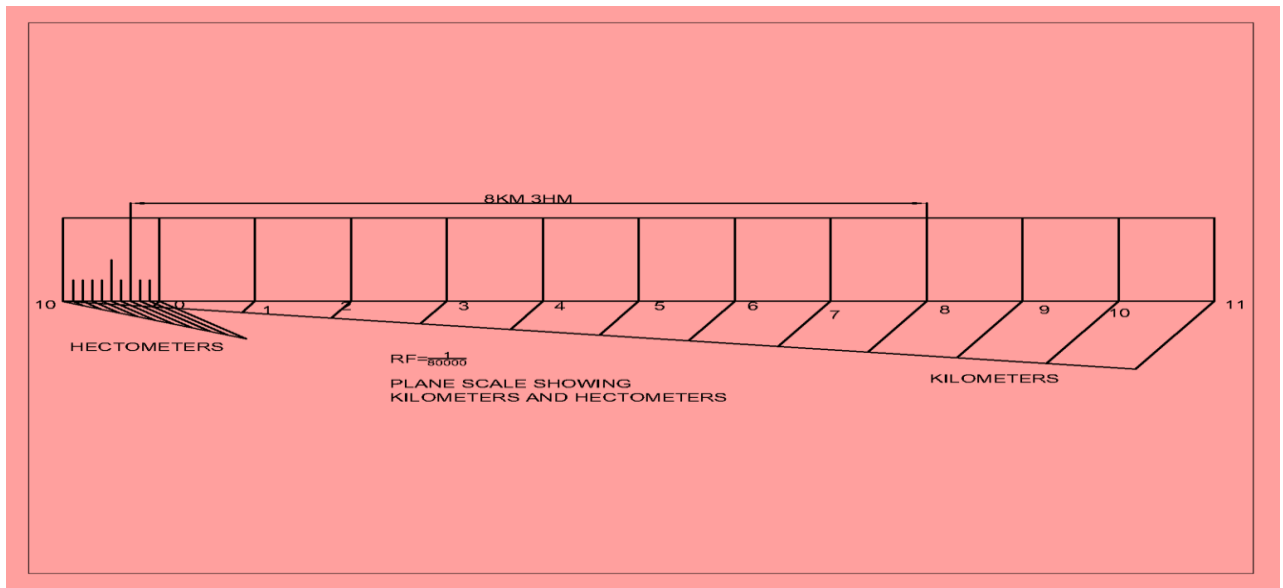

Fig 3.7
d. Place (0) at the end of first unit. Number the units on right side of Zero and subdivisions on left-hand side of Zero. Take height of scale 5 to 10 mm for getting a look of scale.
f. Show the distance 8.3 km on it as shown in Fig 3.7.